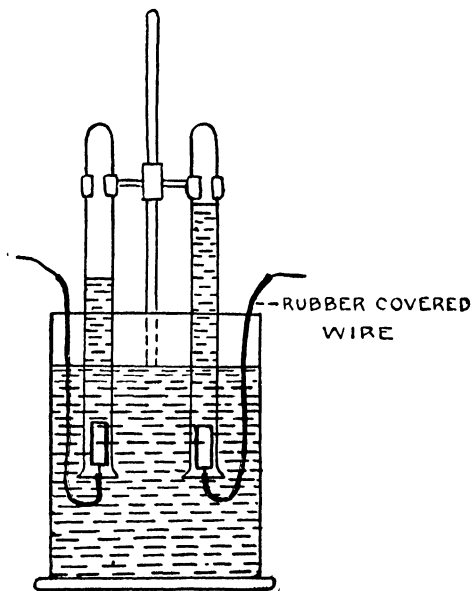

FIG. 85.—Electrolysis apparatus.
**7. Electrolysis of Water.**—Arrange a battery jar, ring stand, clamps and two large test tubes as shown in Fig. 85. Two pieces of platinum foil will be necessary for this experiment, but they may be small. Make a tiny hole in each foil and through it draw a copper wire, bending the end over.